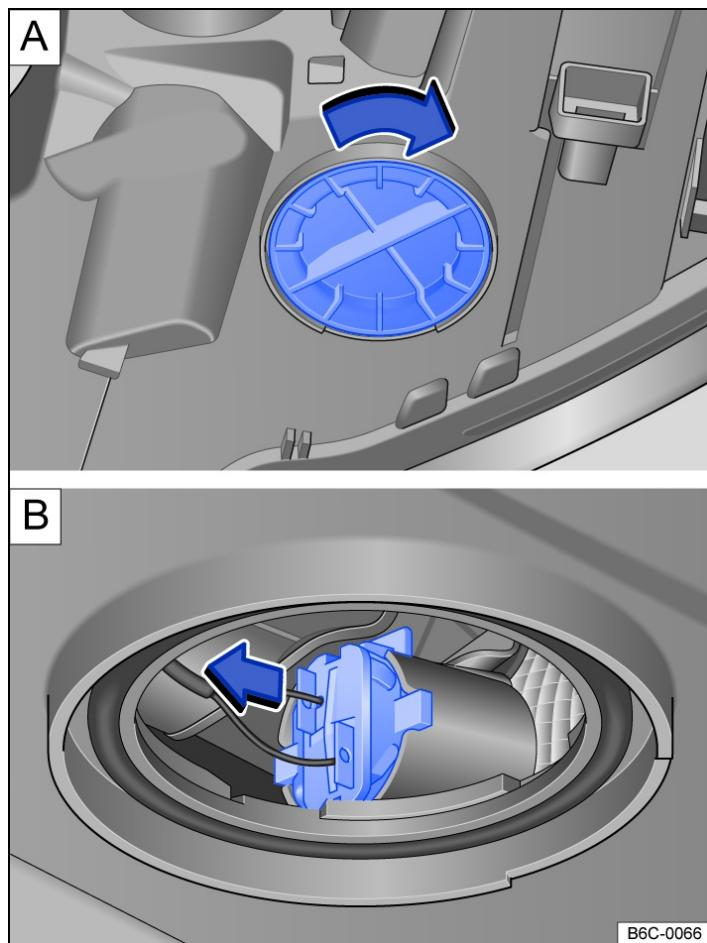

Fig. 1 View of front right headlight from below: closure cap of the turn signal.
4. Turn the closure cap in the direction of the arrow and remove it → Fig. 1 A.
5. Pull out the bulb holder with the bulb in the direction of the arrow → Fig. 1 B.